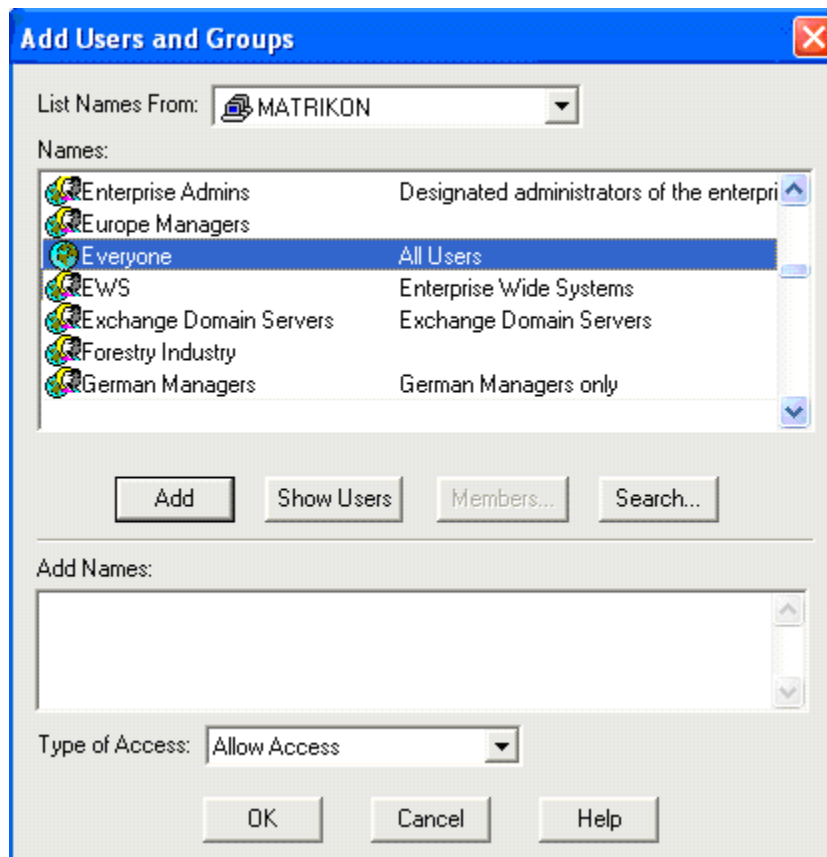

Figure 44 - Add Users and Groups Window
10. The **Add Users and Groups** window (Figure 44) appears.